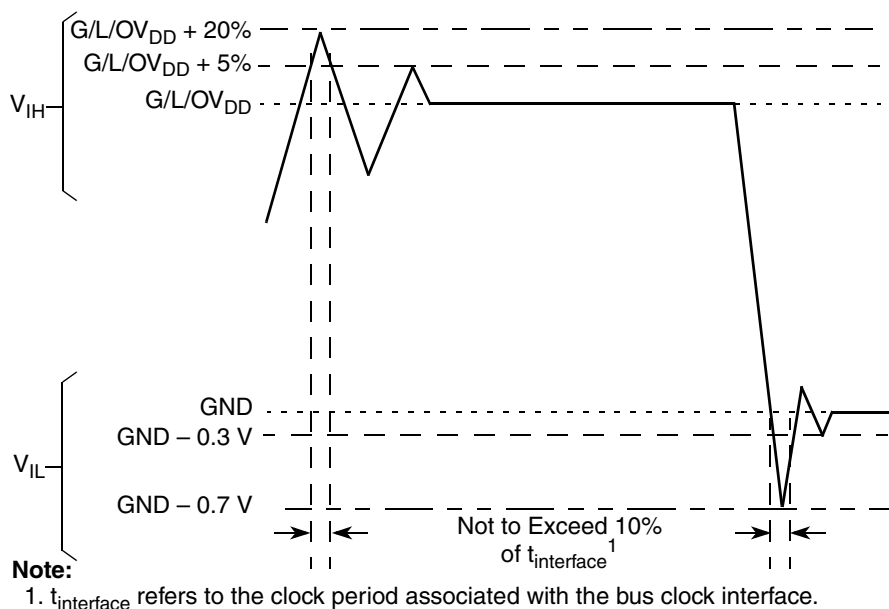

**Figure 2. Overshoot/Undershoot Voltage for GVDD/OVDD/LVDD**
- 5 (M,L,O) $V_{IN}$  and  $MV_{REF}$  may overshoot/undershoot to a voltage and for a maximum duration as shown in Figure 2.
Figure 2 shows the undershoot and overshoot voltages at the interfaces of the MPC8349EA.